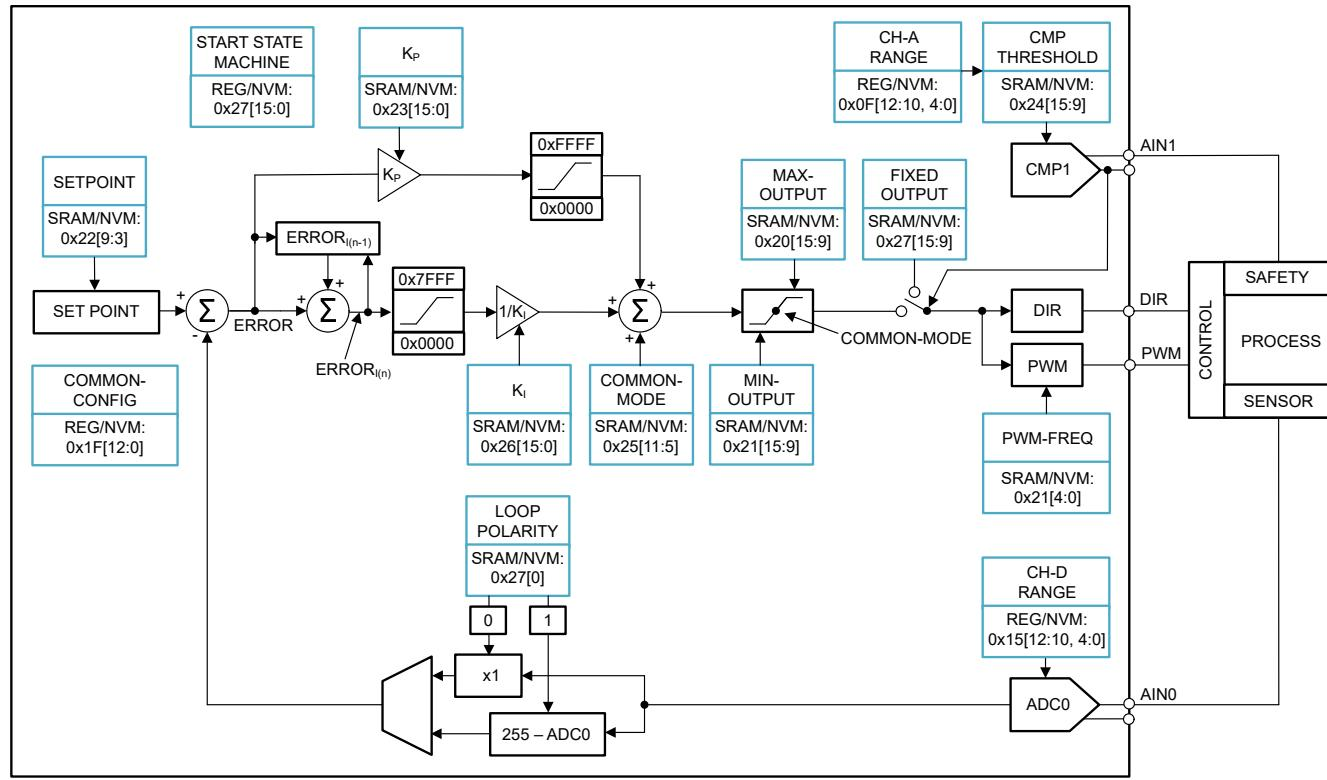

図 7-7. PI Controller Architecture of AFE439A2
The AFE439A2 provides a preprogrammed PI controller state machine, as shown in 図 7-7. ADC channel 0 is used as the input and SDA/SCLK/PWM pin is used as the output. DAC channel 1 is used as a comparator that is used to set the output of PWM output to a value specified by the FIXED-OUTPUT field. 表 7-5 lists all the input/output pin names and functions.
2. Connect the ADC input, comparator input, and DAC output as shown in 图 7-7.